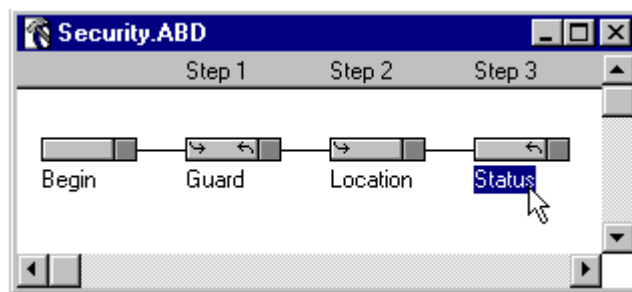
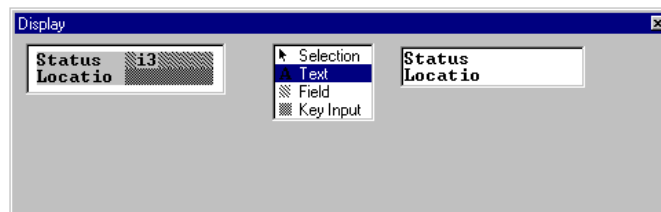

Figure 3-73 Security Application - “Status” Handler
Figure 3-74 “Status” Handler Display
62. Click the “Status” Handler (Figure 3-73) to select it. The generated display is shown in the **Display** window (Figure 3-74). The generated display shows status of the location on the first line and asks for the next location on the second line.